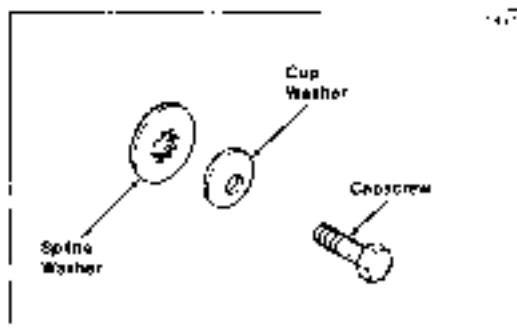

Figure 30 Blade Hardware
1. Reinstall the blades with the face pointing upward. Install a spine washer, cup washer and capscrew (see figure 30). Be sure the spines on the spine washer are engaged with the shaft spines. Be sure cup washer is installed with the concave side up.